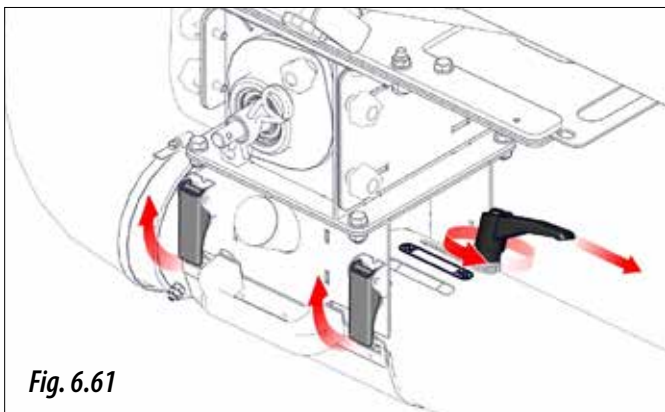

Fig. 6.61
- 4- Open the cover of the Venturi injector using the two quick-release fasteners and move the calibration control to the test position, "NO" (Fig. 6.61).